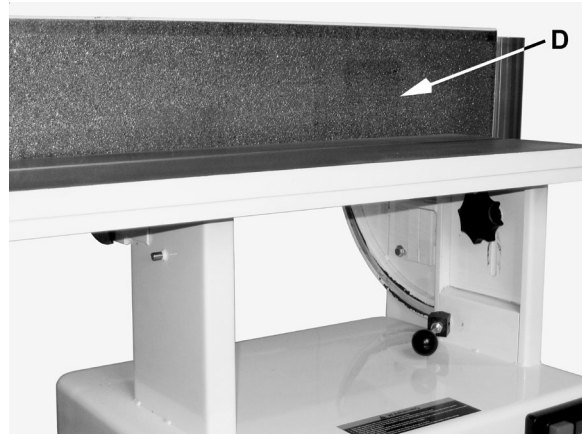

Figure 4
4. The *sanding platen* (A) is presently in the horizontal position. Pull *lock handle* (B) forward to unlock the platen assembly.
5. Tilt sanding platen to the *vertical position* (C), which will look like D in Fig. 4; then push the *lock handle* (B) to lock the platen assembly in place.